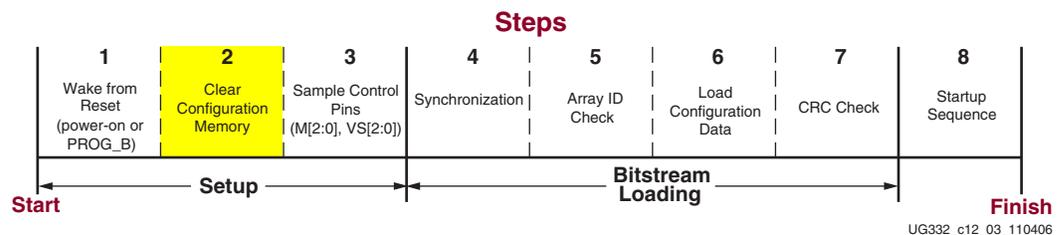

Figure 12-5: Clear Configuration Memory (Initialization)
2. Hold the `INIT_B` pin Low during initialization, which stalls the configuration process in Step 2 shown in Figure 12-5, page 245. However, after the FPGA releases `INIT_B` High, the application cannot subsequently delay configuration by pulling `INIT_B` Low.